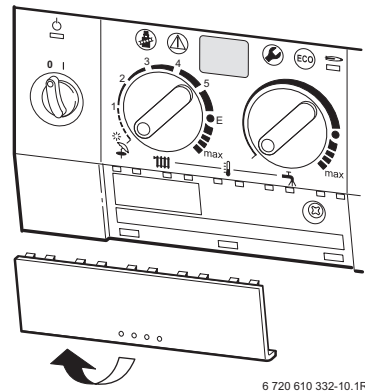

Fig. 24
- ▶ Pull out cover panel at the bottom and remove. Refer to fig. 24.